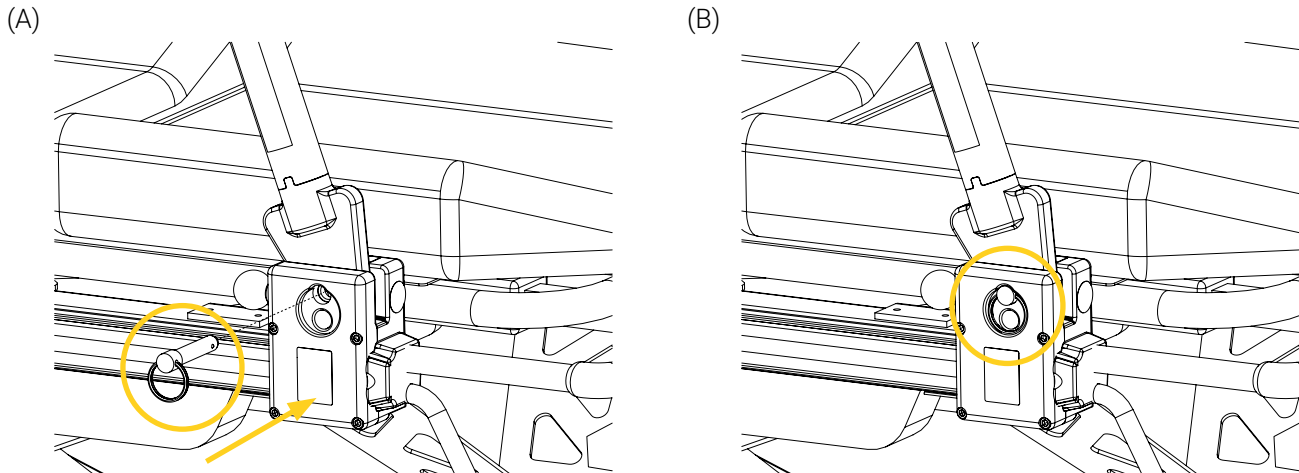

Figure 10: Reinserting the lock pin
3. Reinsert the lock pin in the clamp block (Figure 10 A) and push it until the finger ring is flat against the surface (Figure 10 B).